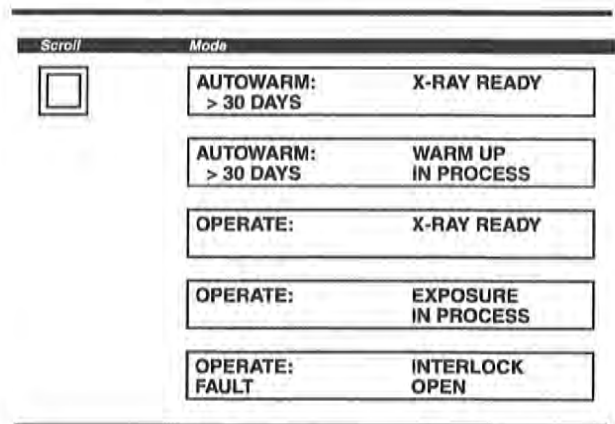

FIGURE 4-2:
4.3.2 The Bottom LCD (Figure 4-2)